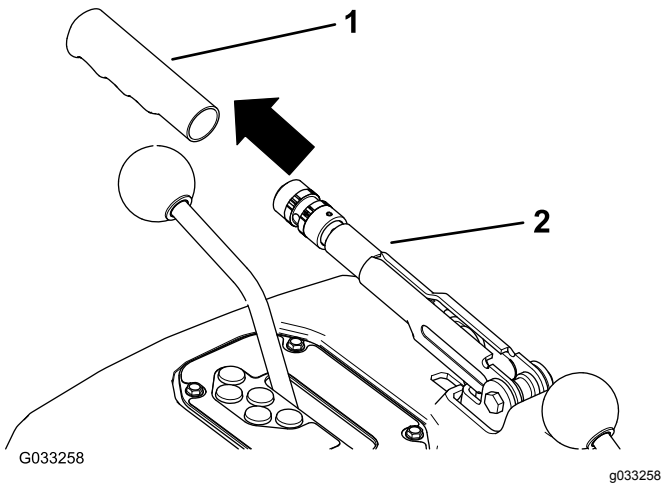

Figure 74
5. Install the rubber grip onto the parking-brake lever (Figure 74).
1. Remove the rubber grip from the parking-brake lever (Figure 74).